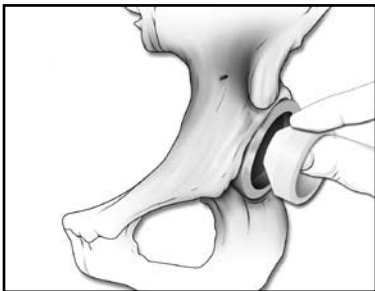

FIGURE 9 |
- a polyethylene liner, position by hand in to the prosthetic shell | **FIGURE 9** and then match the specific reference on the impactor with the slot on the liner and impact until the liner is fully secure. | **FIGURE 10**
- a metal liner, wash dry the liner and carefully position it into the prosthetic shell by hand | **FIGURE 9** and impact until the insert is secure. | **FIGURE 10** Select the size of impactor head relevant to the internal diameter of the chosen liner.